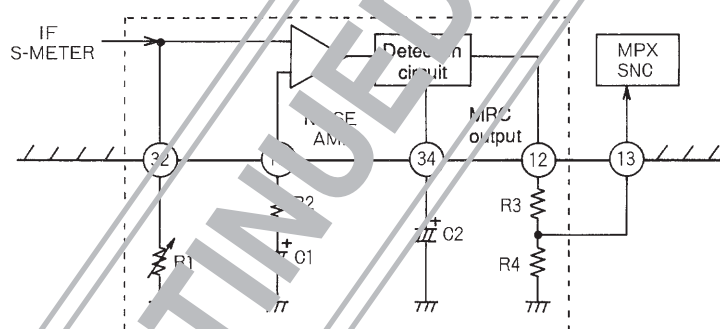
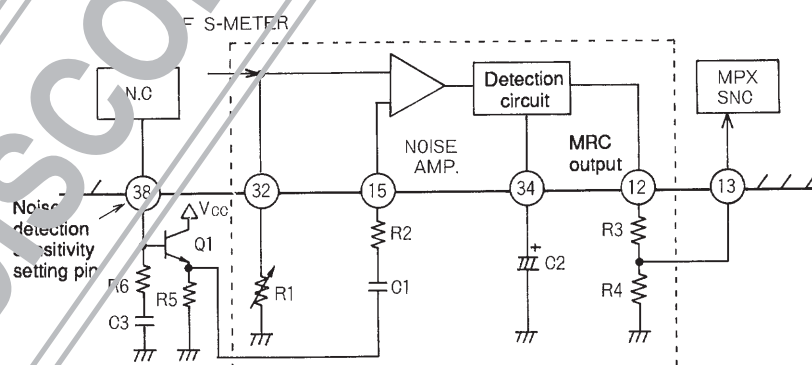

Figure 2 Multipath Circuit
Figure 3 Application Circuit Using NC HPF Noise Detection
- The MRC (multipath rejection circuit) supports three techniques as shown in Figures 2, 3 and 4. Figure 2 shows the technique in which the S-meter AC component is detected directly. Figure 3 shows the technique in which the NC HPF noise is detected, and Figure 4 shows the technique in which multipath is detected using the S-meter high area components.